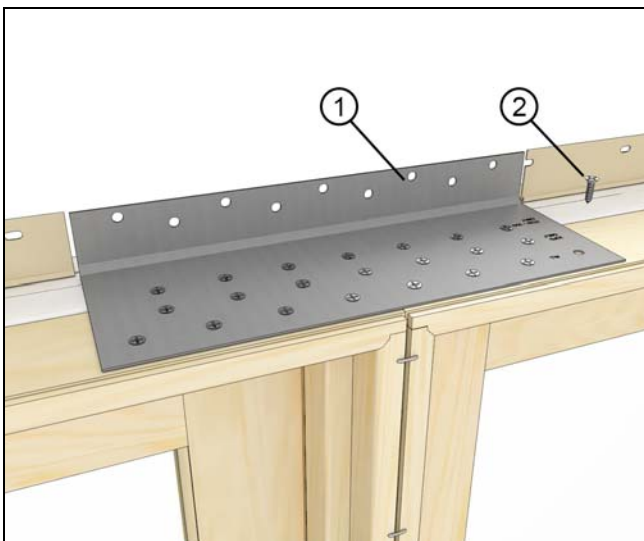

Figure 10
1. Center an IOFD clip over each mullion. Attach with #7 x 5/8" Phillips flat head screws through every hole in the clip. See Figure 10